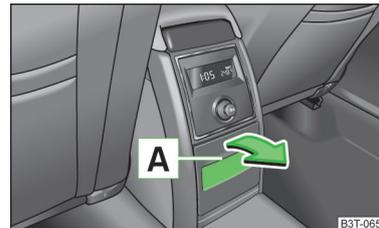

Fig. 95
► Pull the handle [A] » Fig. 95 on the upper section of the recess and open out the compartment in the direction of the arrow.